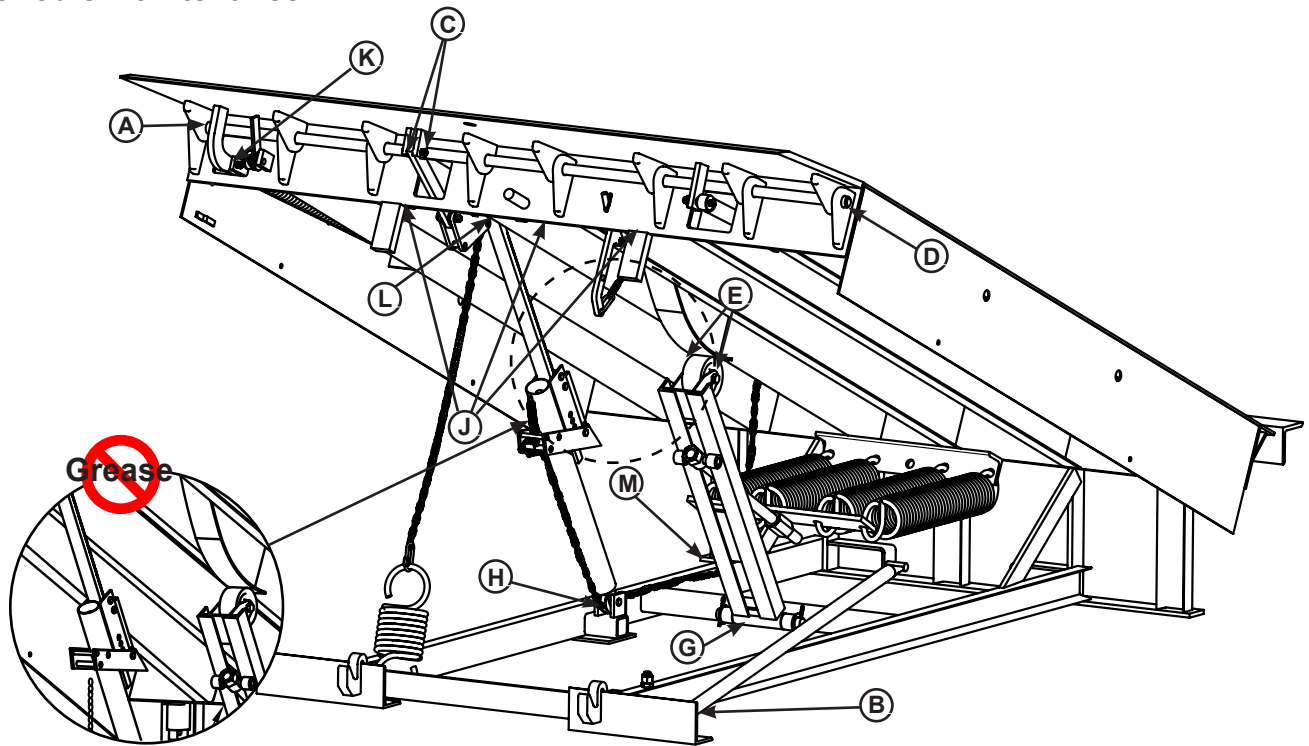

Figure 24
- Lubricate the following areas with lightweight machine oil (See Figure 24):
- (B)— Lip maintenance prop pivot
- (C)— Lip banger pivots
- (H)— Hold-down pivot/pulley
- (J)— Safety leg linkage pivots
- (L)— Hold down-to-platform pin
- Lubricate the following areas with white lithium grease (See Figure 24):
- (A)— Lip hinge area (inject grease into all the lip hinge grease fittings)
- (D)— Platform hinge area (inject grease into all the platform hinge grease fittings)
- (E)—Lift arm roller bushing (2) grease fittings
- (G)— Lift arm pivot
- (K)— Lip assist pin